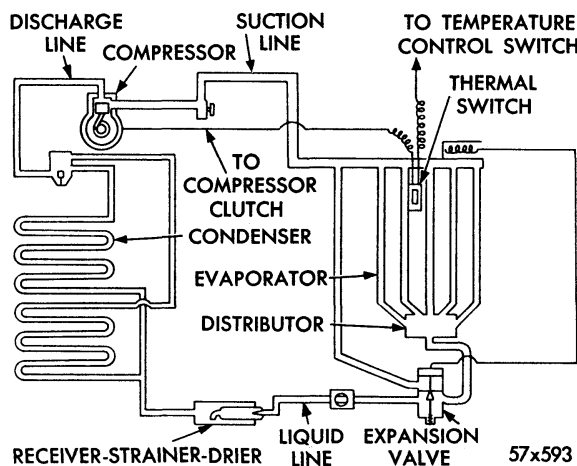

Fig. 9 — Heater-Air Conditioning (Schematic of Components)
1. Compressor clutch and water valve heating element will be energized (Figs. 9 and 10).